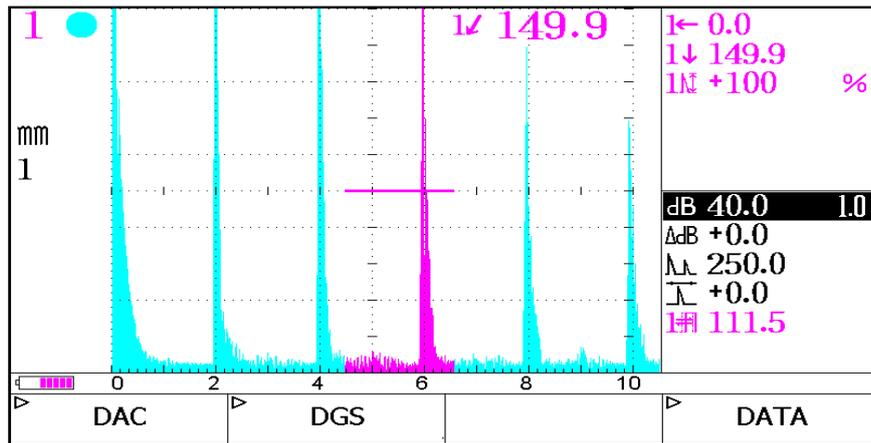

Figure 17. Function Menu Display Screen/Second Page
Press again and the screen toggles over to the second page of the function menu (figure 17).
“Function” menu (Figure 17, page 24) and press (DAC).
1. Press  to retrieve the “Function Menu” screen (Figure 17, pg. 24).